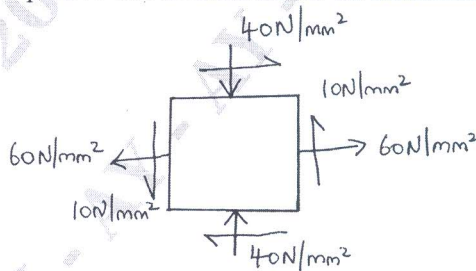

Fig.Q3(b)
b. A plane element is subject to stresses as shown in Fig.Q3(b). Determine principal stresses, maximum shear stress, their planes and normal stress on maximum shear plane.